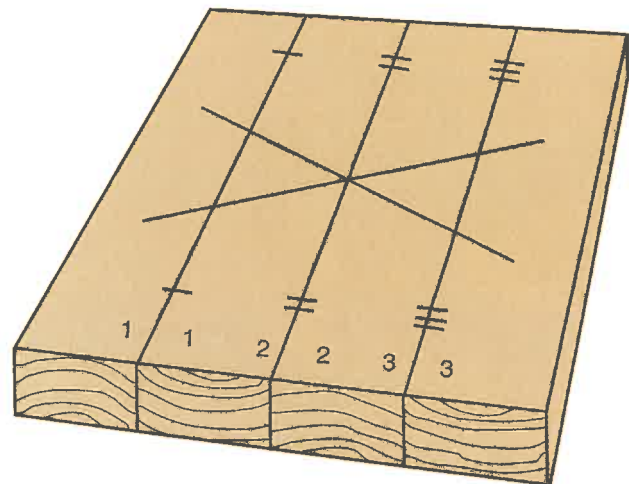

Figure 33-26. Lightly mark workpieces with a pencil to identify mating joints.
3. Arrange the end grain pattern and mark mating joints. See Figure 33-26.